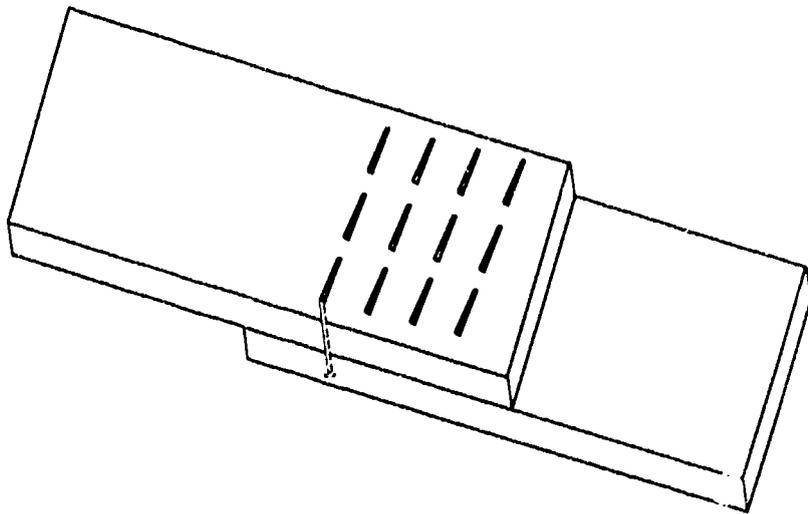
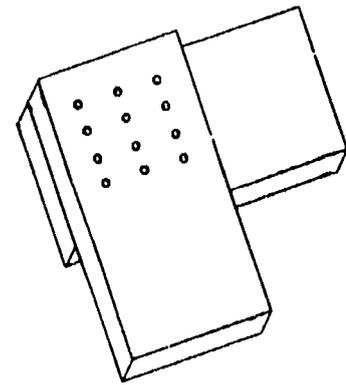

Figure 1. Fastener 1: bottom view - the nails are clinched over across the wood grain.
Figure 2. Top view: the boards can also be nailed together at right angles.
2. **Fastener 1* - Nails:** Position two boards together as shown in Figure 1. The two boards should measure no more than one foot end to end when nailed together. First, evenly space the twelve nails. The nails should be clinched over, either *with* the wood grain or *across* the wood grain. (Across the grain provides 20 percent added holding strength.) The boards can also be fastened at right angles to each other (see Figure 2).